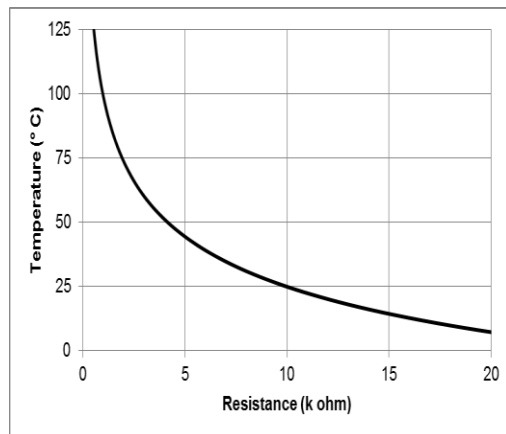

Figure 13: Coreboard temperature as a function of thermistor temperature
- Coreboard temperature (T_{ref}) of the CBM-380 is monitored using a Murata Manufacturing Co. thermistor (part number NCP15XH103J03RC). Thermistor test points THRM1 and THRM2, if connected to the LED by the driver board to LED cable, can be used to determine the coreboard temperature. Signal Pins 7 and 8 are also thermistor test points and are equivalent to THRM2 and THRM1. Figure 13 shows the relationship between the temperature of the coreboard and the resistance between the thermistor test points. Note that there is a temperature rise from T_{ref} to the LED junction; for guidance on estimating the LED junction temperature (T_j), refer to the CBM-380 product datasheet.